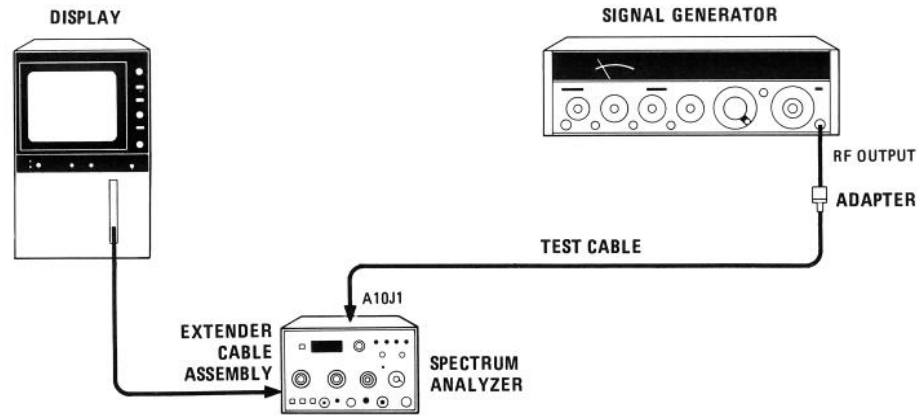

FIGURE 5-5. SECOND IF BANDPASS AMPLIFIER AND BANDPASS FILTER ADJUSTMENT TEST SETUP
3. Remove W6P2 from Second IF A10J1. Connect signal generator through test cable to A10J1 as shown in Figure 5-5.